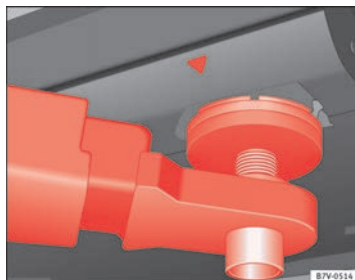
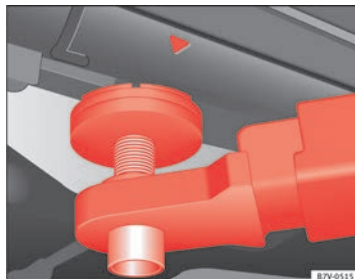

Fig. 162 Front jacking points for raising vehicle with lifting platform or jack.
Fig. 163 Rear jacking points for raising vehicle with lifting platform or jack.
Always use the jacking points indicated in the figures ⇒ fig. 162 and ⇒ fig. 163 when raising the vehicle. If the vehicle is not lifted at these points, it could be seriously damaged ⇒ ⚠ or lead to serious injury ⇒ ⚠. ►
- Only use the jacking points indicated in the figures ⇒ fig. 162 and ⇒ fig. 163 when raising the vehicle. If the vehicle is not lifted at the indicated points, it may fall from the platform while the engine or gearbox is being dismantled, for example.